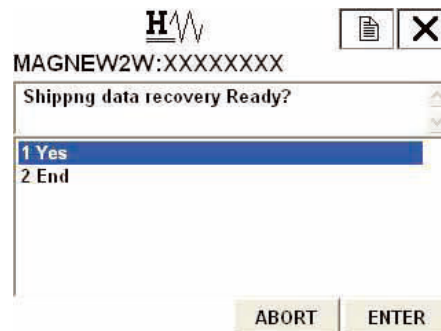

Figure 7-93
2. When executing shipping data recovery, select “YES” and press F4 (ENTER). Shipping data recovery will execute, and the display will return to Figure 7-93. Press F3(ABORT) to return to the previous menu.